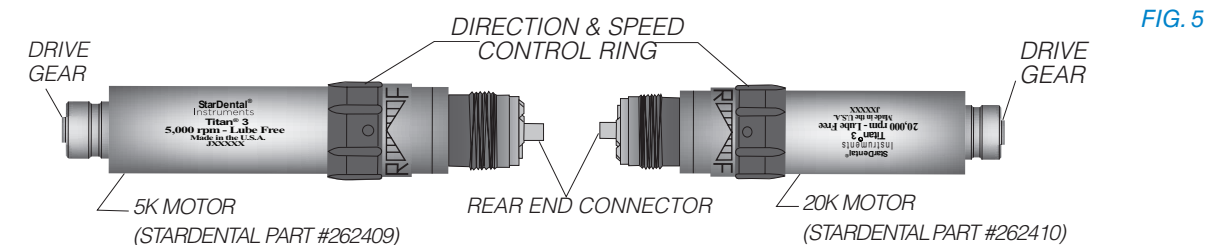

FIG. 5
1. Examine rear end connector of motor(FIG.5). Verify motor matches tubing connector of delivery system.